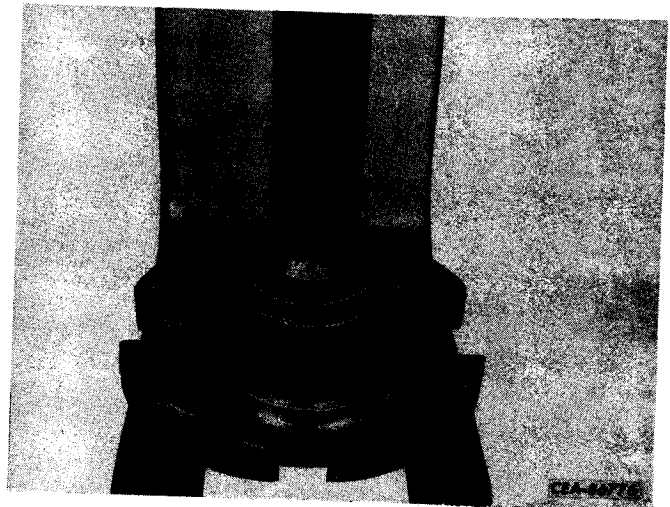

Figure 3-47
Coat the O.D. of a new output shaft seal (2, Fig. 3-47) with sealant. Using a suitable sleeve (1) between the press ram and the seal, press seal into bore of retainer.